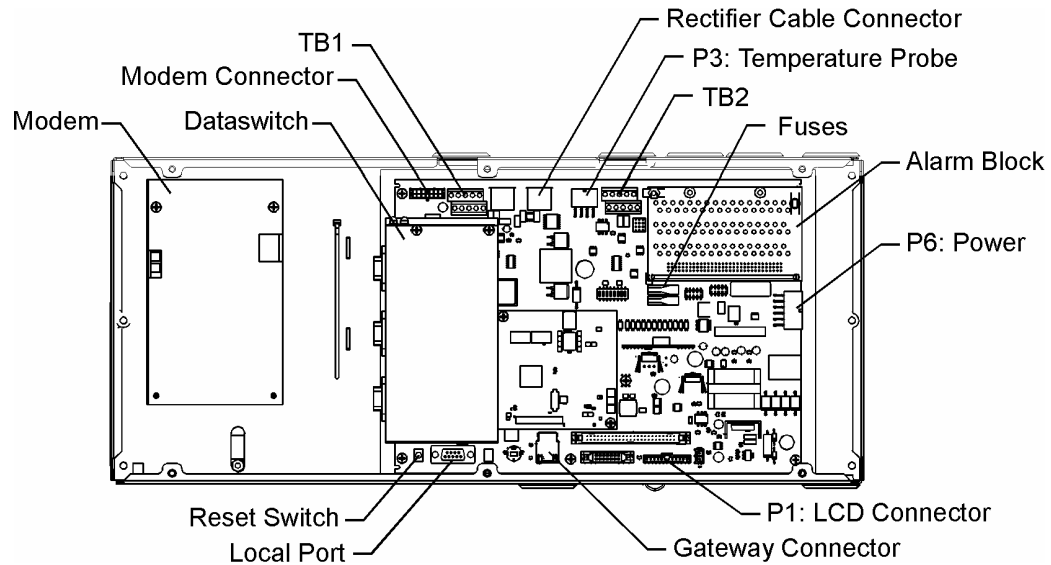

Figure 6-11: Millennium II Controller Connections
a.	On the controller (MCR1), locate P2 (Gateway LAN). It is located at the bottom of the controller.(see Figure 6-11)
a.	Inside of the controller housing, determine if a Modem card is installed. It will be located to the left of the MCR1 board. (see Figure 6-11)
a.	<p>If NO cable terminated on P3 on the Millennium, then proceed to the next item for connection.</p> <p>If a cable terminated on P3 on the Millennium, connect the old cable to P3 on the Millennium II. P3 is a white connector located at the top of the MCR1 board. (see Figure 6-11)</p>
a.	On the controller, locate the BSL alarm block. It is located in the upper right hand corner of the MCR1 board. (see Figure 6-11)
If a cable terminated on TB200 on the Millennium, connect the old bus cable to TB1 on the Millennium II. (see Figure 6-11)
a.	On the controller, locate TB1. It is located at the top of the board. (see Figure 6-11)